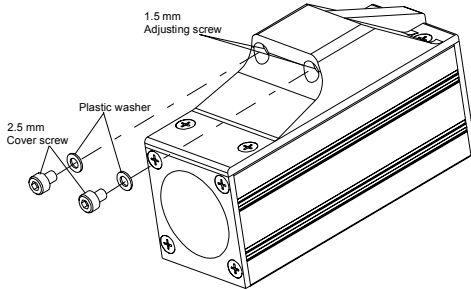

Figure 25. Scope Adjustment Screws
2. Expose the adjustment screws. Using a 2.5 mm Allen wrench, remove the cover screws as shown in Figure 25.